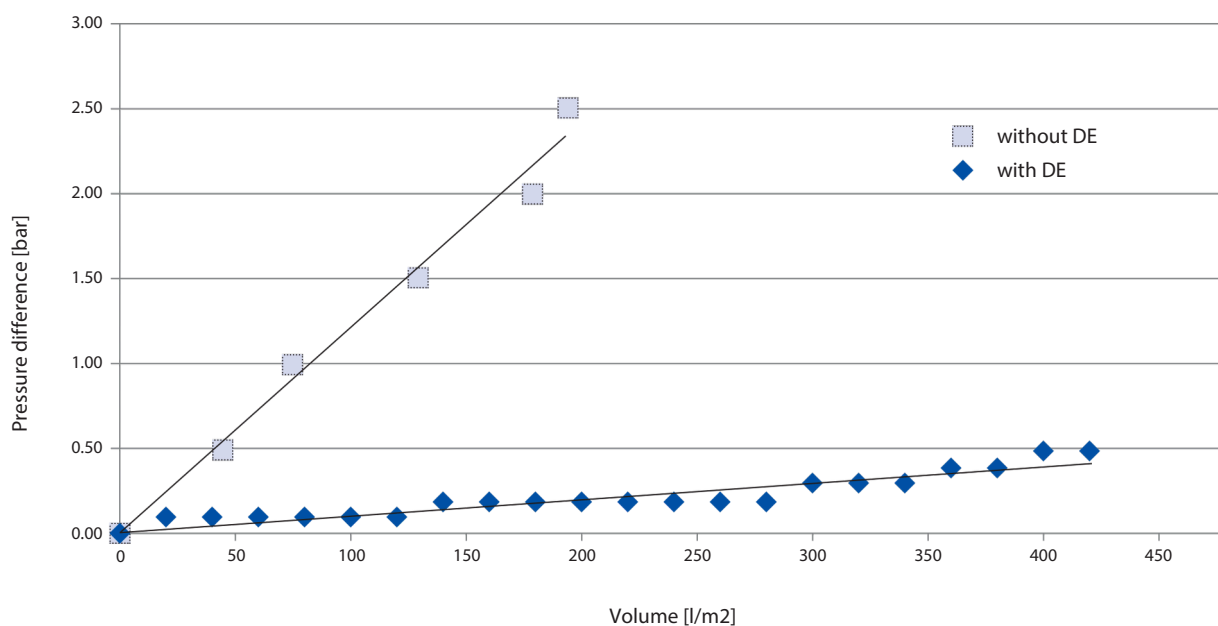

Figure 2: clogging curve; example of filtration time during harvest with and without DE
Why is the use of filter aid necessary? Standard depth filters can no longer handle the higher and higher cell titers (>108 cells/ml) in fermentation broths. By using a filter aid such as diatomaceous earth (e.g. Celpure®) the filtration volume per filter area can be increased by up to 80% (see figure 2). The filter aid is suspended in the fermentation broth or in buffer/water and then washed onto the FILTRODISC™ BIO SD modules to form a filter cake. When doing this, the filter sheet (e.g. PURAFIX® CH 09P) in the modules, themselves function not as filters, but merely as a support for the filter cake, which is where the actual slurry removal takes place.
1. *Extension of filtration volume per area:* Due to the formation of the filter cake the filtration volume per filter area can be extended greatly, in some cases up to 80% (figure 2).